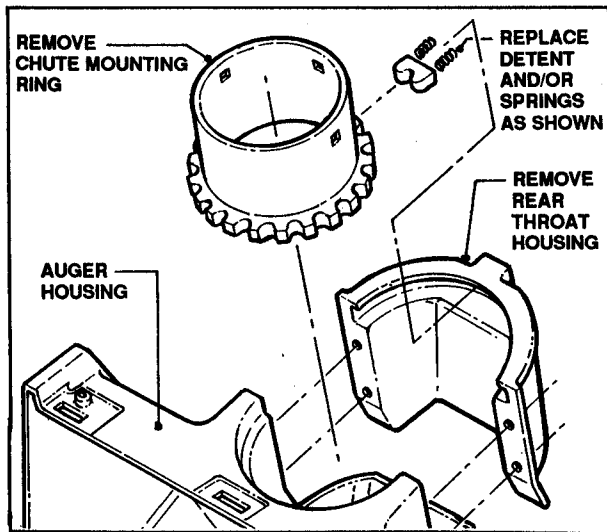

FIGURE 7.14
- (1) Follow steps 1 thru 4, a & b, (G - CHUTE MOUNTING RING/REAR THROAT HOUSING REPLACEMENT).
- (2) Replace Detent or Detent Springs as required. See Figure 7.14.